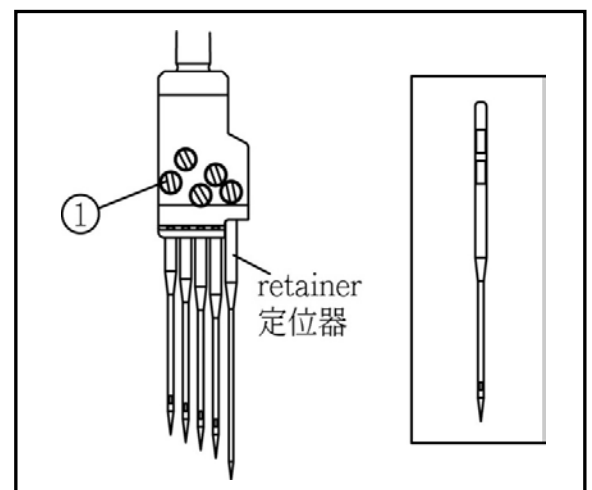

Fig. 22
Insert needles into the inmost point of the needle clamp, and tighten screws ①. (Fig. 22)
- (1) Rotate the handwheel to raise the needles to the highest point.
- (2) Loosen the screws ① and pull the needles down.
- (3) Make the flat part of Needles face to the front, insert new needles into the needle clamp ② as far as they can go. Tighten screws ① securely. (Fig. 22)